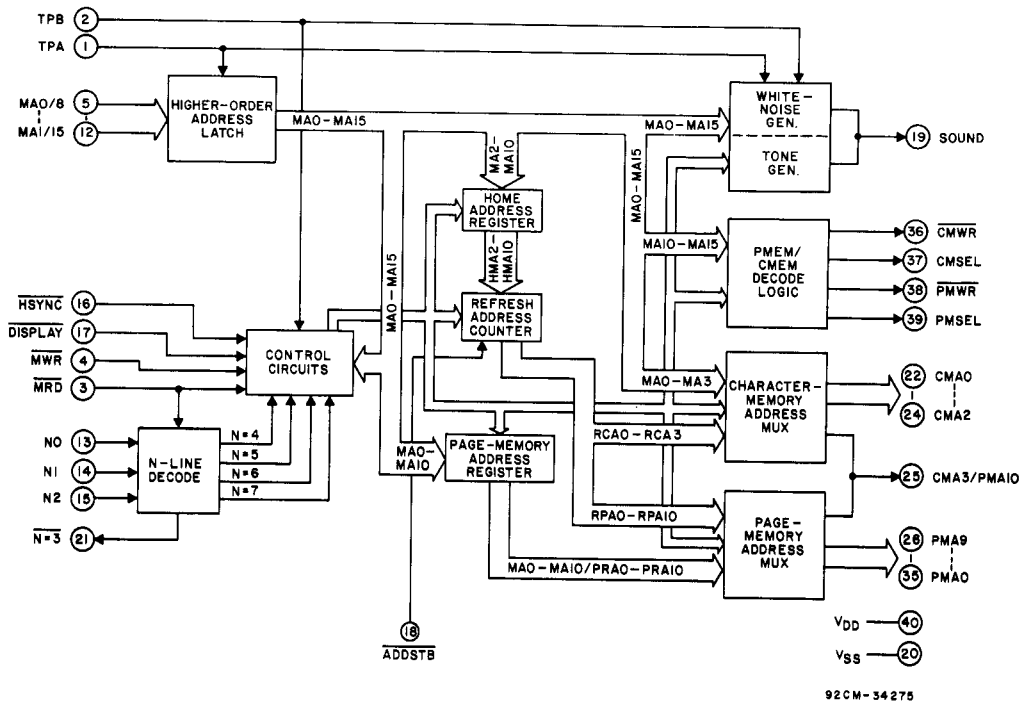

Fig. 2 - CDP1869C block diagram.
Data to the command registers are loaded from the 8 multiplexed address inputs (MA0/8-MA7/15). The high-order byte (MA8-MA15) is latched by the high-to-low transition of TPA, to provide up to 16 internal data bits. The I/O instruction N-Line Codes are latched by the high-to-low transition of TPB (Fig. 2).
**OUT 6 Instruction**—As shown in Fig. 2, the page-memory outputs (PMA0-PMA10) and the character-memory outputs (CMA0-CMA3) originate from two sources, with four modes of operation: